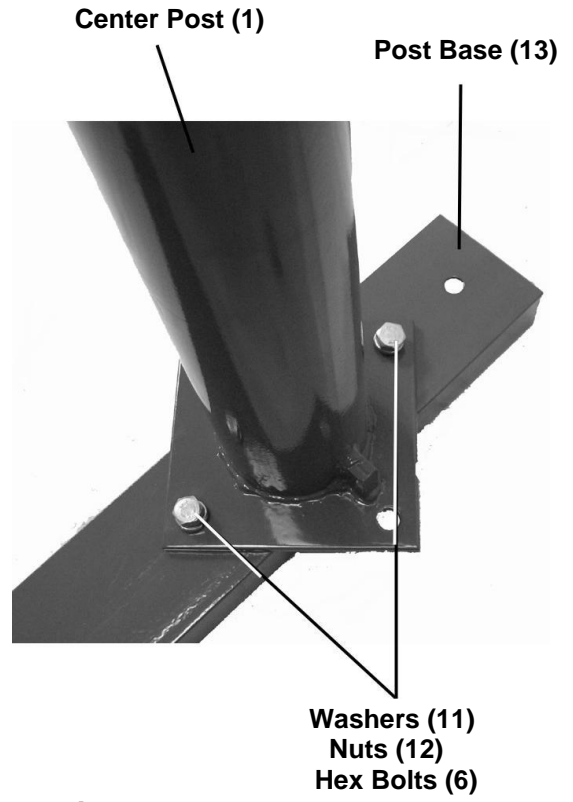

Figure 2
2. Set the bottom of the Center Post diagonally across the middle of the Post Base. See Figure 2, below
3. Fasten Center Post and Post Base together using the Hex Bolts (6), Washers (11), and Nuts (12). See Figure 2, below.